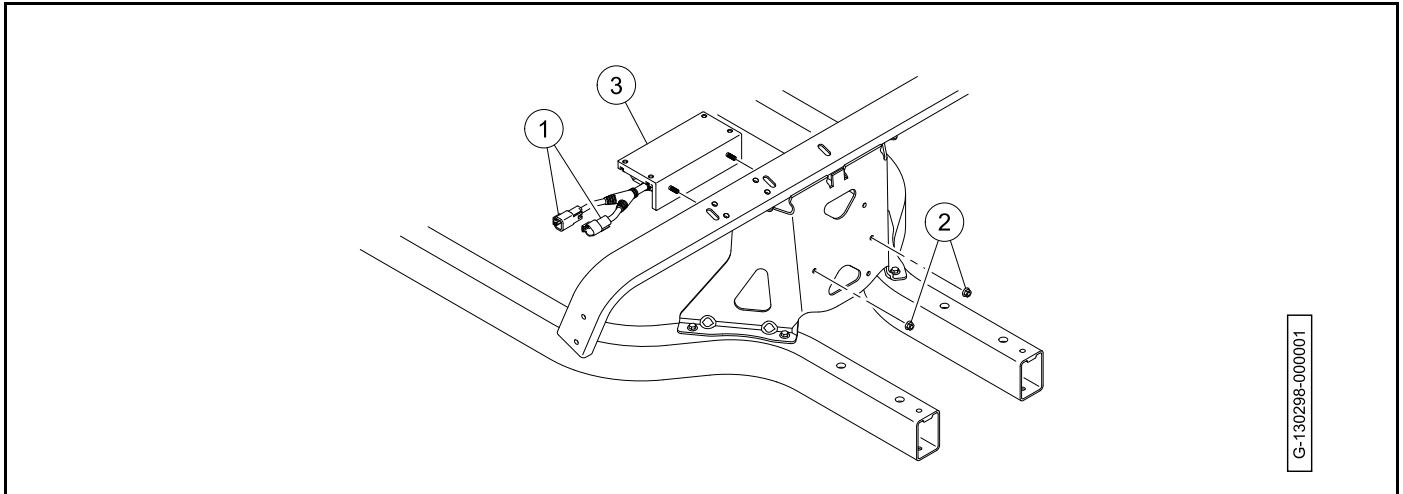

Figure 13-7 DC To DC Converter
3. Disconnect the electrical connectors (1) (**Figure 13-7, Page 13-7**).
1. Install the DC to DC converter (3) on the vehicle (**Figure 13-7, Page 13-7**).
2. Install the nuts (2). Tighten the nuts to 65 lb·in (7.3 N·m).
3. Connect the electrical connectors (1).